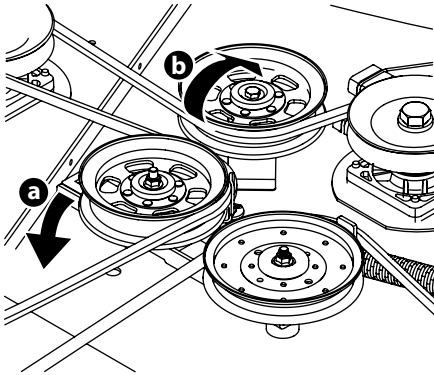

Figure 4-12
- b. Working from the middle of the tractor, pivot the idler bracket and movable idler pulley rearward away from the backside of the "V" belt (a) just far enough to lift the belt up and over the idler pulley (b). See Figure 4-12.